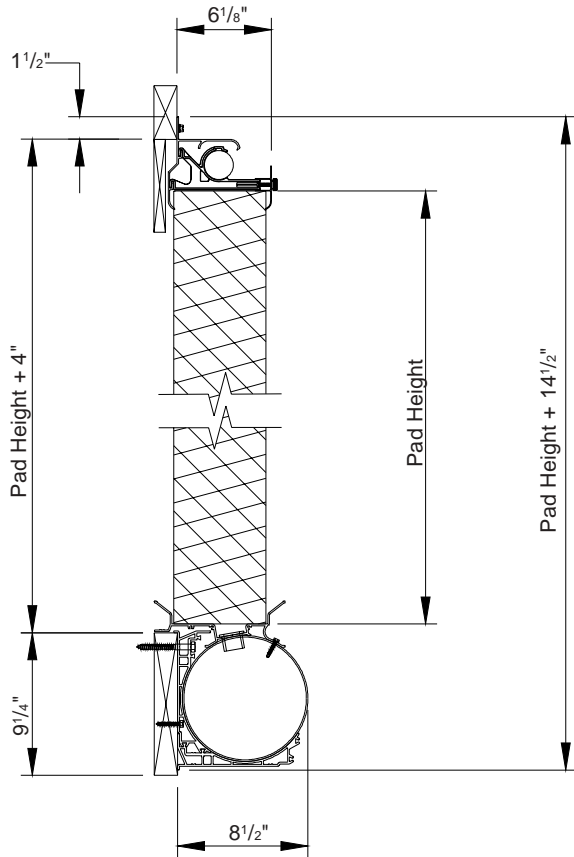

Figure 19A
26) Installation of cooling frame is now complete. Installation should resemble that of **Figure 19A and 19B**. Proceed to next section for plumbing instructions.